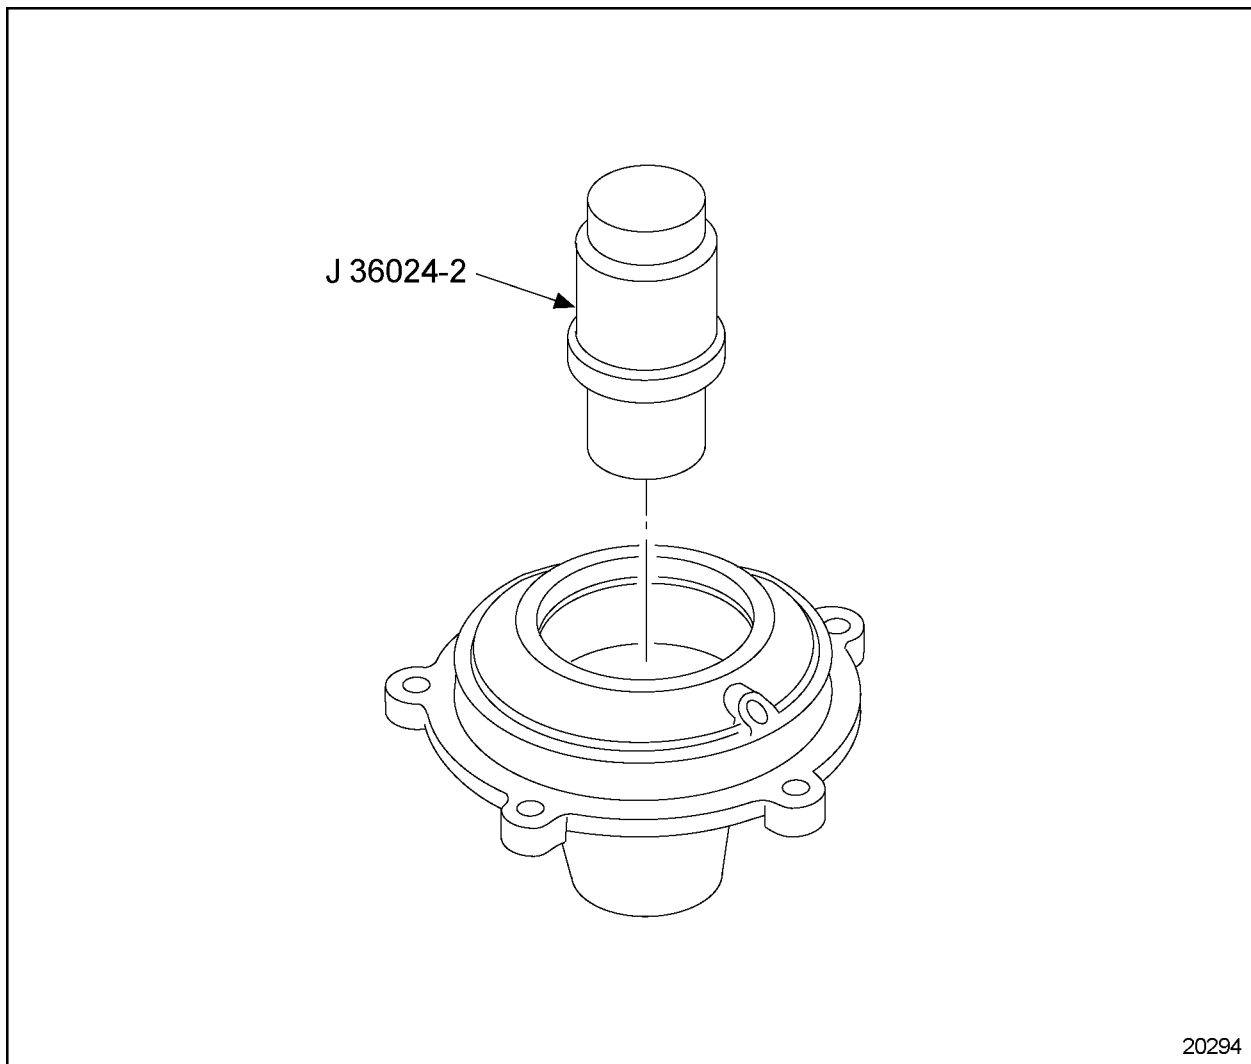

Figure 1-392 Needle Bearing Removal
14. Install needle bearing remover and installer, J 36024-2 part of J 36024-D. See Figure 1-392. Apply pressure to J 36024-2 part of J 36024-D, and remove the needle bearing.